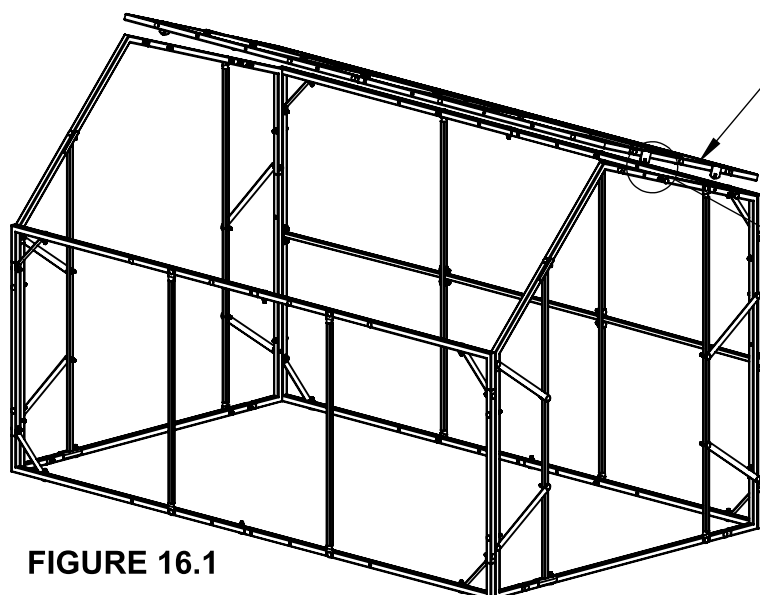
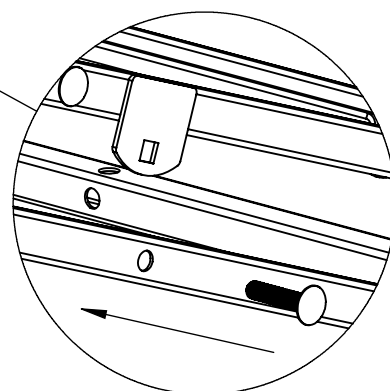

FIGURE 16.1
FIGURE 16.2
STEP 12: With the Front and Back Panels Assembled to the Right and Left End Frames, place the Top Frame Assembly onto the Duck Blind Frame, See Figure 16.1. Make sure that the tabs on the Top Frame Assembly are pointed down and on the outside of both the Right and Left End Frames. Once in place secure the Top Frame Assembly with (4) 1.75" long carriage bolts and (4) flanged lock nuts, (2) on each end, see Figure 16.2. **Make sure the bolts are inserted with the smooth side of the bolt to the outside of the frame and the nut on the inside of the frame. Assembling the whole blind with all the nuts on the inside of the frame will help with assembly and not catch on the cover.** There is (2) holes on the top of both Right and Left End Frames these Tabs will secure to.